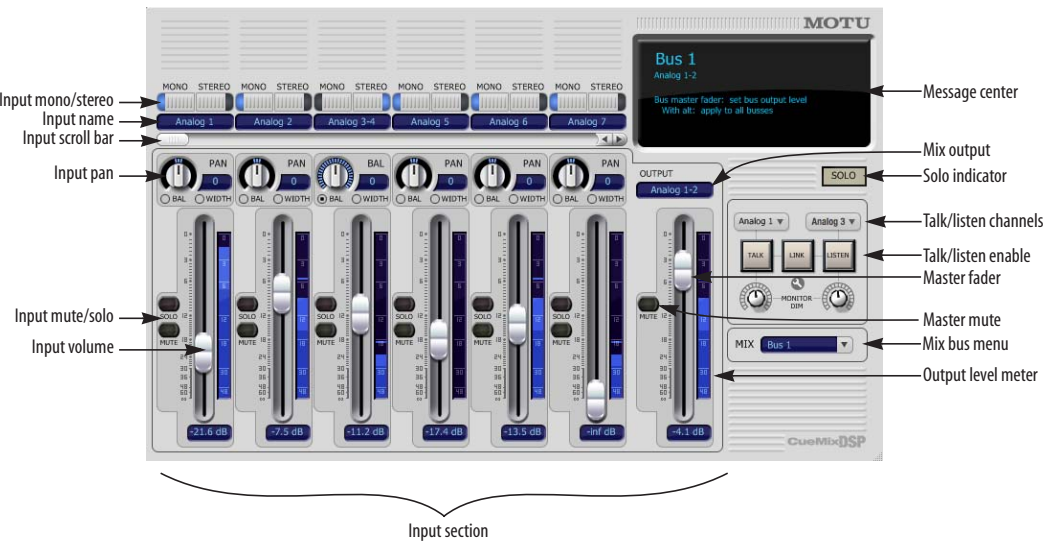

Figure 9-1: CueMix FX is a virtual mixer that gives you control over the V4HD’s on-board mixing features.
CueMix FX displays one mix at a time. To select which mix you are viewing, choose the desired mix bus from the *Mix bus* menu (Figure 9-1). Double-click the name to change it.
To view a mix, choose it from the *Mix bus* menu (Figure 9-1). The menu shows all mixes by name, followed by the V4HD output pair that it corresponds to.
The master fader (Figure 9-1) controls the overall level of the mix (its volume on its stereo output). Use the individual input faders to the left to control individual input levels.
The master mute button (Figure 9-1) temporarily disables (silences) the mix.
The Output level meter (Figure 9-1) shows you the output for the mix's physical output, which may include audio from your host audio software. The clip indicators clear themselves after a few seconds.
The channel strips to the left of the master fader represent each input in your V4HD. Use the input scroll bar (Figure 9-1) to view additional inputs.
Click the *Mono* button (Figure 9-1) if you would like an input to be treated as a mono channel. If you would like to work with it as one channel of a linked stereo pair, click the *Stereo* button. Inputs are grouped in odd/even pairs (Analog 1-2, 3-4, etc.) Stereo pairs appear as a single channel strip in the CueMix FX mixer.
The input pan knob (Figure 9-1) pans the input across the bus stereo outputs. If the input itself is grouped as a stereo pair, two forms of panning control are provided:
To add an input to a mix, or remove it, click its MUTE button (Figure 9-1). To solo it, use its SOLO button. To toggle these buttons for a stereo pair, hold down the control key while clicking either channel. The Solo indicator LED (Figure 9-1) lights up when any input is soloed (including inputs that may currently be scrolled off-screen).
Use the input fader (Figure 9-1) to adjust the level for the input in the mix. Note that an input can have different level, pan, mute and solo settings for different mixes. Input channel level meters are post-fader.
The Solo light (Figure 9-1) illuminates when any input in the current (active) mix bus is soloed (even if it is currently scrolled off-screen).
- 1 Select the source mix (Figure 9-1) and choose Copy from the Edit menu (or press control-C).